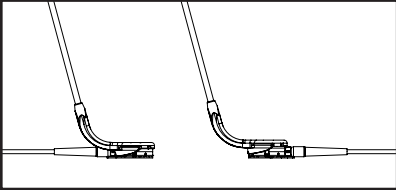

Figure 4. Loading the access port into the port applier deployment head
4. Insert the access port into the RapidPort® EZ Port Applier deployment head. Ensure the port tubing is parallel to the Applier handle. Tubing can be pointing in the direction of the handle or in the opposite direction (**Figure 4**). The port will snap into place.